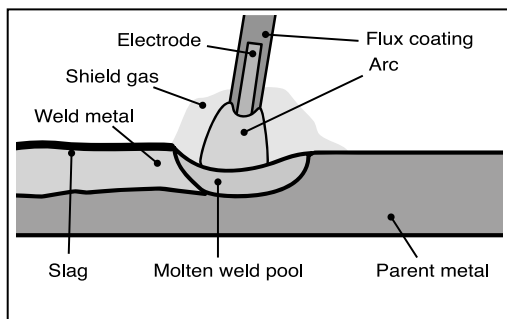

FIG. 3
8.1 BASIC MMA/ARC WELDING PROCESS OVERVIEW – FIG.3